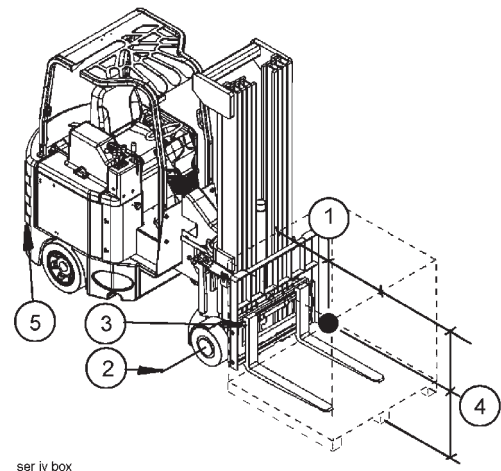

Figure 3-4 Load Center Rating
Make sure the actual horizontal and vertical load centers do not exceed the maximum load centers stated on the capacity plate. Failure to do this can cause the forklift to tip over causing serious injury or death (See Figure 3-4).
You need to consider two types of load centers. The horizontal load center (1) is equal to one-half the length of the load when the weight is evenly distributed (See Figure 3-4).
For example, a load that is 48" (122 cm) long has a horizontal load center of 24" (61 cm). The further the load center is from the fulcrum (2), the less stable the forklift (See Figure 3-4).
Always make sure your load is flush against the rear of the forks (3), and that unevenly distributed loads are loaded with the heaviest end of the load closest to the front wheels (See Figure 3-4).
Your Bendi forklift has a counterweight (5) that allows it to travel with heavy loads. When the forklift lifts a heavy load, the counterweight on the other end of the forklift keeps the center of gravity inside the stability triangle and prevents it from tipping over (See Figure 3-4).